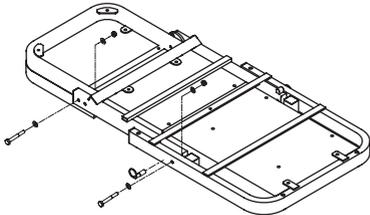

Figure 2 – Creeper Frame assembly
1. Place Creeper Sections face down, arranged as shown in Fig. 2 (note Middle Section orientation).